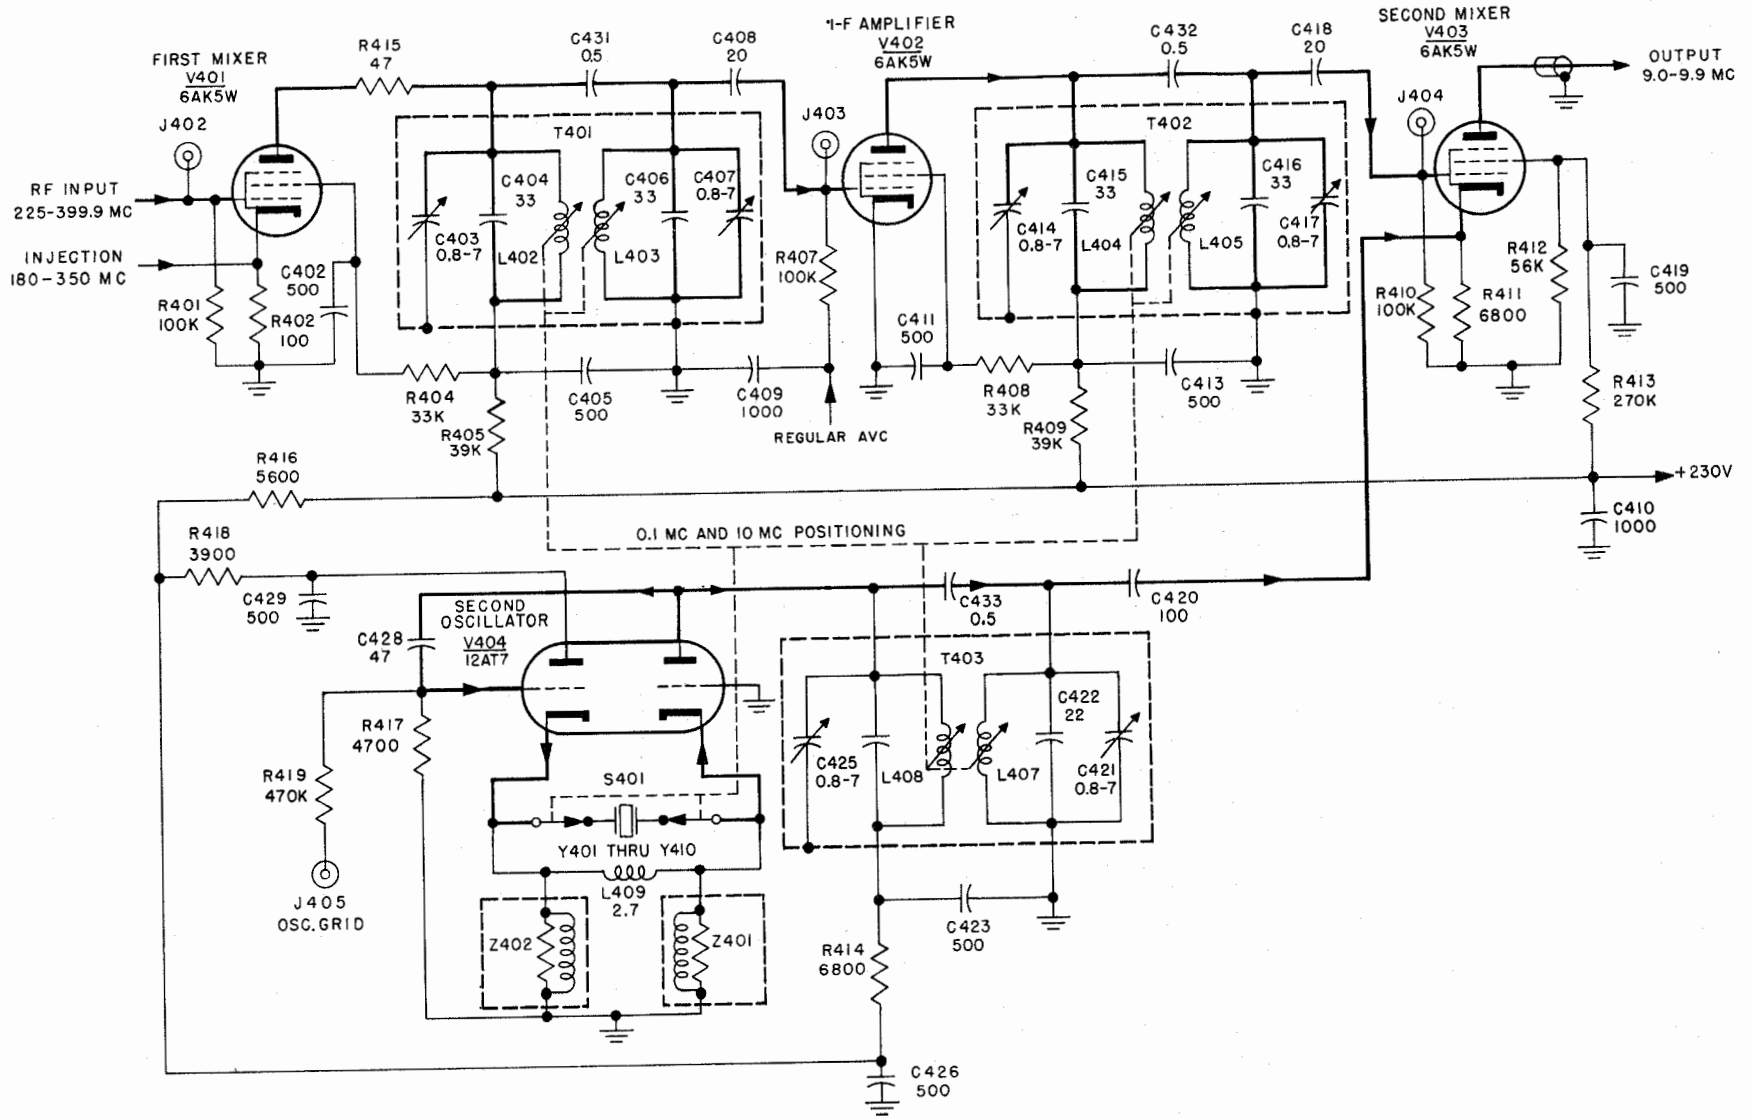

Figure 4-11. Radio Receiver R-278B/GR, Multi-channel Receiver Section, First I-F Amplifier, Simplified Schematic Diagram
1. GENERAL.—A simplified schematic diagram of the first i-f amplifier is shown in figure 4-11. This circuit includes the first mixer, the first i-f amplifier stage, the second oscillator stage, and the second mixer. Each of these circuits is described in the following paragraphs.
2. FIRST MIXER.—As shown in figure 4-11, first mixer V401 combines the r-f signal (225.0 to 399.9 mc) received on the grid with the first injection signal (180 to 350 mc) received on the cathode to produce a first intermediate frequency in the range of 40.0 to 49.9 mc. The output transformer is permeability tuned as explained below.
3. FIRST I-F AMPLIFIER STAGE.—As shown in figure 4-11, this stage consists of V402 and two interstage i-f transformers. This circuit receives the 40 to 49.9 mc i-f signal, amplifies it and feeds it to the grid of second mixer V403. The gain of the stage is controlled by the avc circuit. Because the r-f channels are spaced at 0.1-mc intervals and the injection system is tunable at 10-mc intervals, there are 100 possible first intermediate frequencies. The first i-f interstage transformers, T401 and T402, are therefore made tunable in 100 one-tenth megacycle increments by means of a differential tuning mechanism which includes a tuning rack that is cam driven from the 0.1-mc and 1.0-mc autopositioner outputs (see figure 4-26).
4. SECOND OSCILLATOR.—As shown in figure 4-11, the second oscillator (or second injection system) is essentially V404 operating in a Butler type oscillator circuit. This circuit employs one of ten type CR-23/U crystal units operating at frequencies from 31.00 to 40.00 mc. The theory of operation of a Butler oscillator circuit is explained in paragraph 4-2a(1)(c). Selection of the correct crystal unit and tuning of the plate transformer is done by the 1-mc autopositioner output. An injection frequency at each megacycle from 31 to 40 mc is provided. The second injection signal is fed to the cathode of second mixer V403.